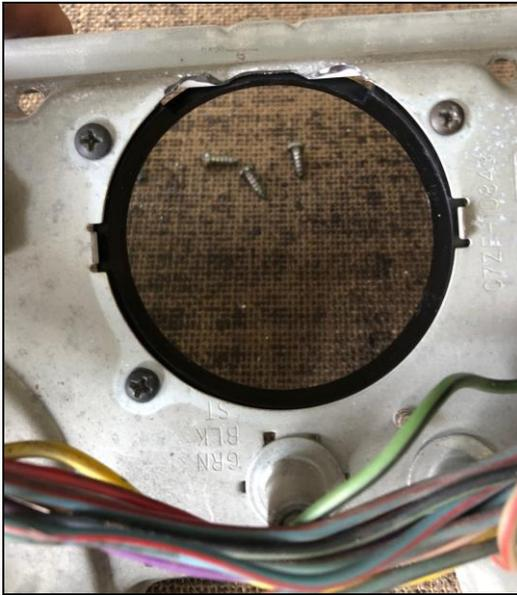

Figure 6
8. After you have tested fitment, install the plastic spacer from the front of the cluster and install the screws through the back of the housing. Do not over-tighten. Then, simply slide the tach through the front of the cluster and align as to be straight (**Figures 6 & 7**).